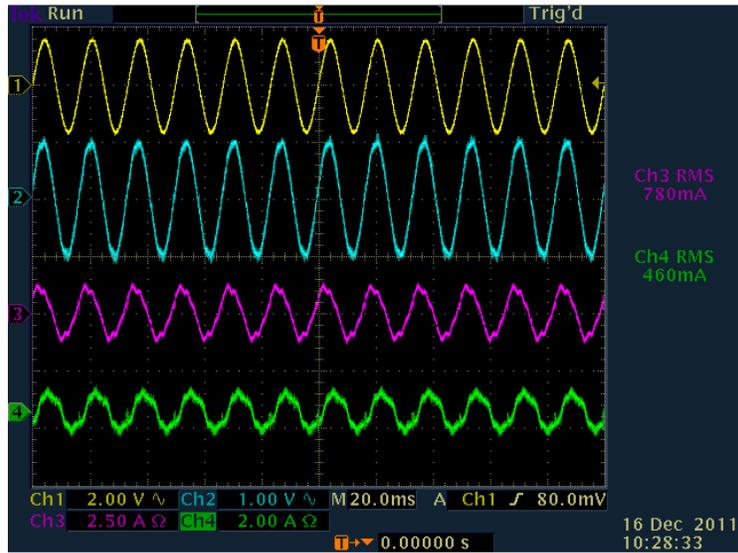
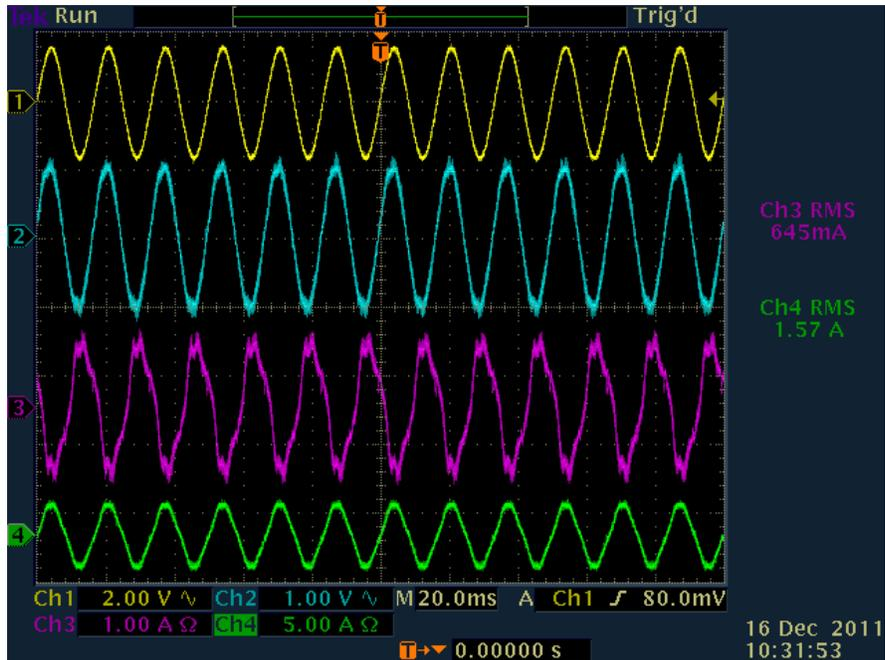

Fig 43 Load Power = Power From Inverter + Power From Grid, Vrms ~15-16V, RI ~15 Ohms
Fig 44 Power From Inverter = Load Power + Power Fed Into the Grid, Vrms ~15-16V, RI ~15 Ohms
Write MtoC_Message1_Ptr->LightCondition value to 0.2 in the watch window, and watch the CtoM_Message1_Ptr->PanelVoltage increase (note you will have to do this from the M3 side, and run and halt the processor again for any change you make to be effective). Now change the value of MtoC_Message1_Ptr->InvStart to 1, the state machine will now kick in. MPPT will be enabled and the DC bus will start rising and as it reaches 30V the inverter close loop operation will be started. The state can also be monitored by watching the variable PVIInverterState in the watch window from the C28x side if needed. Note the CtoM_Message1_Ptr->PanelPower, which shall now be close to the theoretical value CtoM_Message1_Ptr->PanelPower_Theoretical. This shows the tracking of the MPPT from a cold start. Fig 43 Shows the current waveform with the inverter and the grid current, as they are almost in phase this shows the currents from the two sources i.e. the grid and the PV inverter sum together to provide the required current for the load.
10. **Power From Inverter = Load Power + Power Fed Into the Grid**, Now change the MtoC_Message1_Ptr>LightCommand to 0.8, The CtoM_Message1_Ptr->PanelPower_Theoretical will now change to (28.7), as MPPT is on the PanelPower is tracked close to 28.7W. Now as the inverter has surplus power that, it starts feeding power into the grid. This reversal in power flow is marked by the phase change in the grid current Fig 44 w.r.t the inverter current as compared to the previous case of Fig 43.